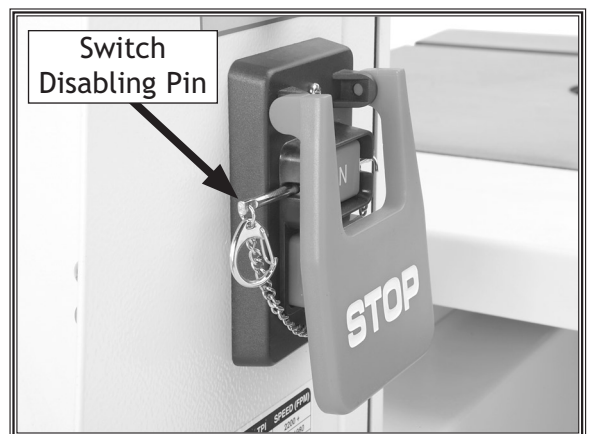

Figure 22. Switch disabling pin inserted into ON button.
6. Insert the switch disabling pin through the green ON button, as shown in **Figure 22**.